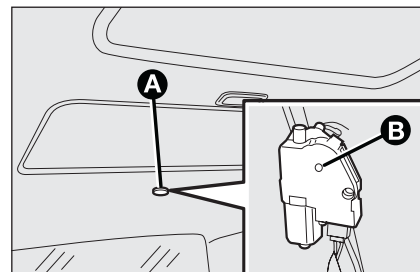

fig. 78
- ☐ remove the protection cap **A**-fig. 78 set on the rear part of the internal covering;